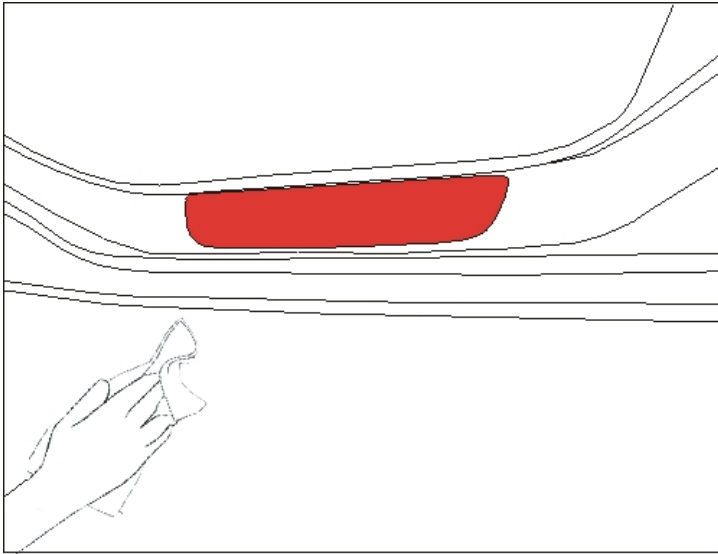

Fig. 2-1
- (a) Thoroughly clean all installation surfaces highlighted in red. (Fig 2-1).